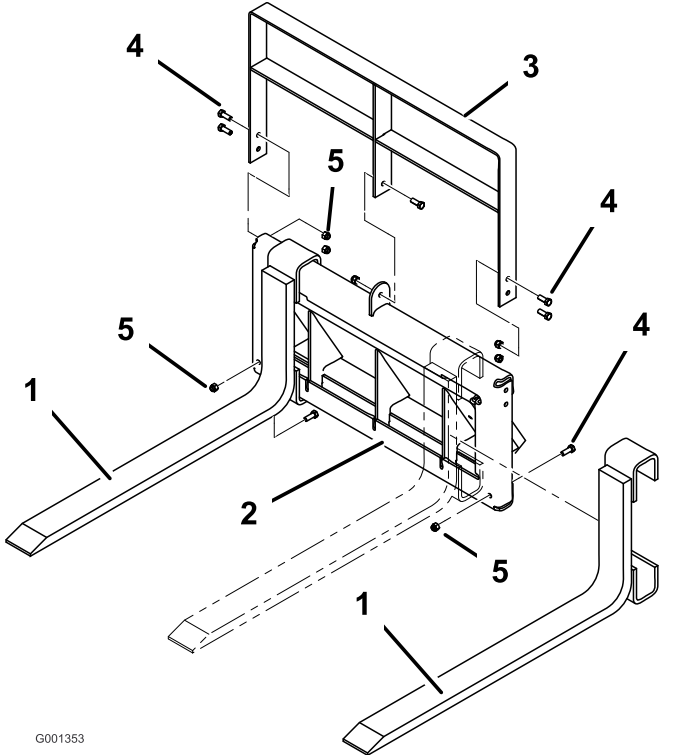

Figure 3
1. Install the forks over the adjustable-forks frame as shown in Figure 3, and secure each fork with a bolt (3/8 x 1 inch) and locknut (3/8 inch).
2. Install the upper fork frame over the assembly as shown in Figure 3, and secure the upper frame using 5 bolts (3/8 x 1 inch) and 5 locknuts (3/8 inch).